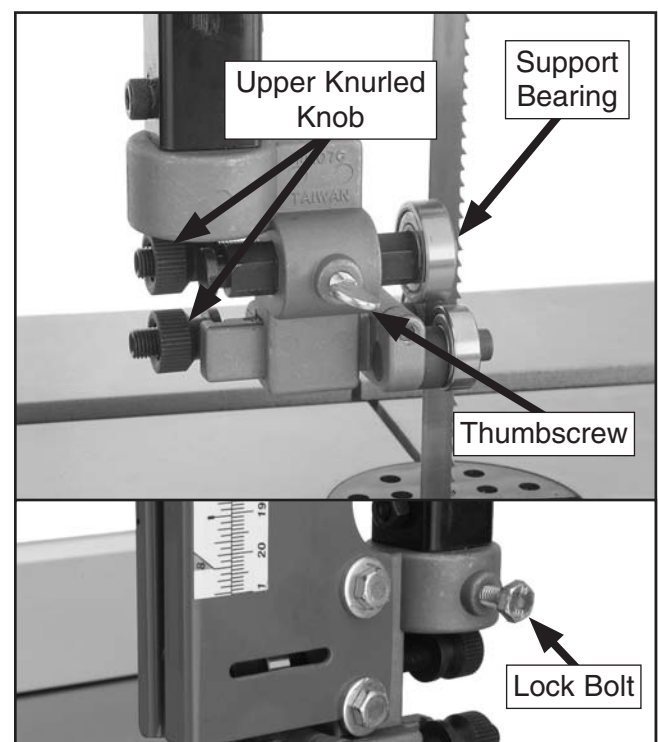

Figure 29. Support bearing controls.
3. Familiarize yourself with the support bearing controls shown in **Figure 29**.